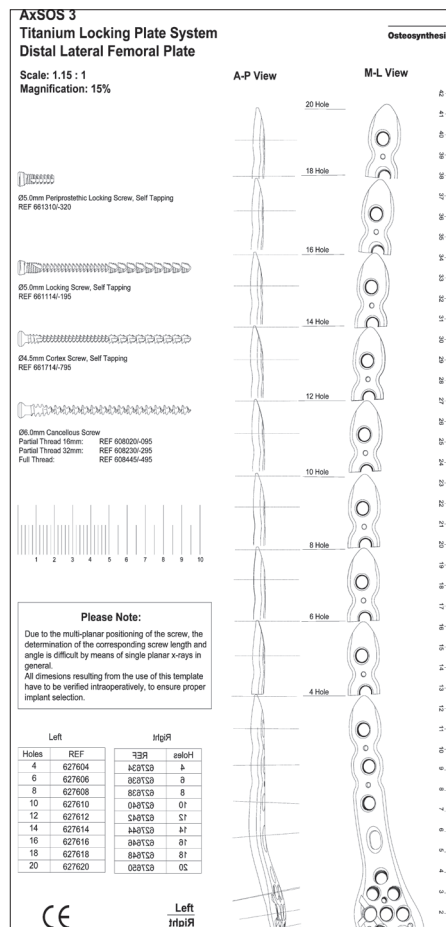

Fig. 6
Use of the X-ray template (ref 981204) in association with X-rays can assist in the selection of an appropriately sized implant (fig. 6).